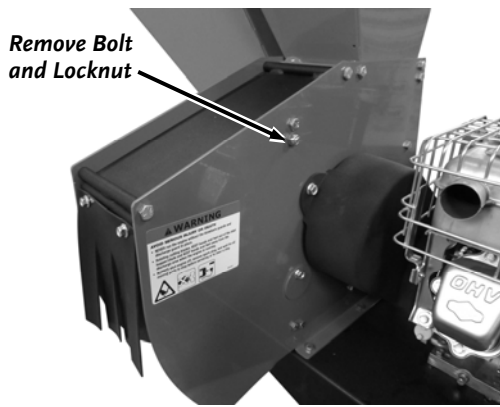

Figure 24
1. Remove the top Screen Bolt and Locknut using two 1/2" Wrenches (**Figure 24**).